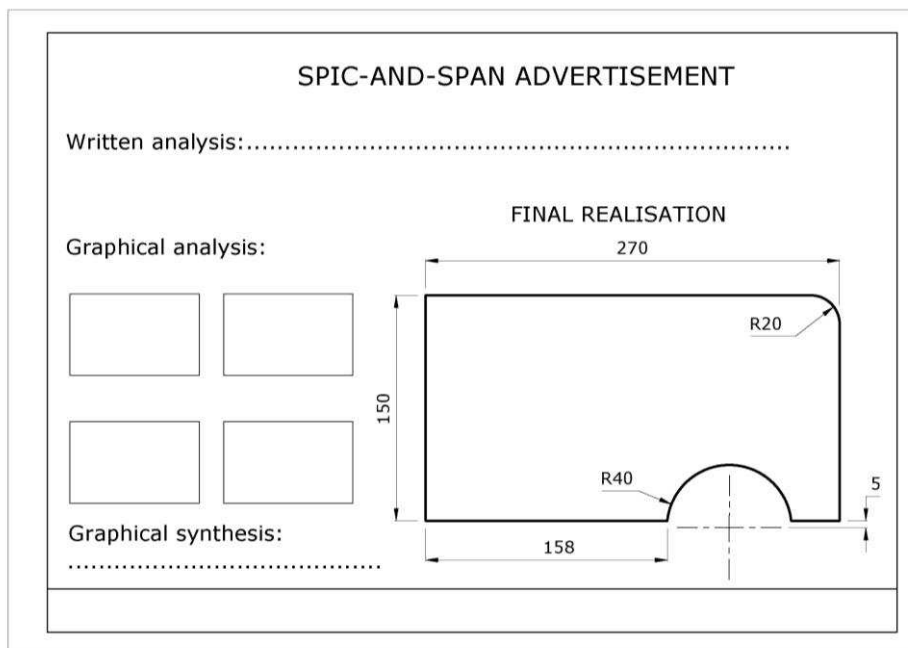

Figure 4b
Produce your final solution in the shape shown in Figure 4b. (14)
- Details of the page layout and the van and the advertising space are given in Figure 4b.